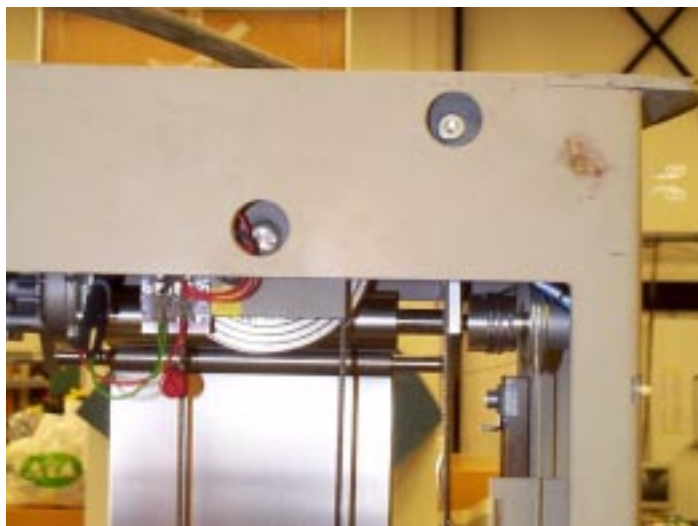

Fig. 8
1. Disconnect one of the motor wires from X887 and connect the digital multimeter (see Fig. 8, pos.9).